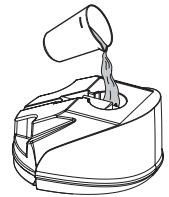

Fig.4
3. Fill the water tank up to or below the "MAX" fill line with clean tap water. (Fig.4)